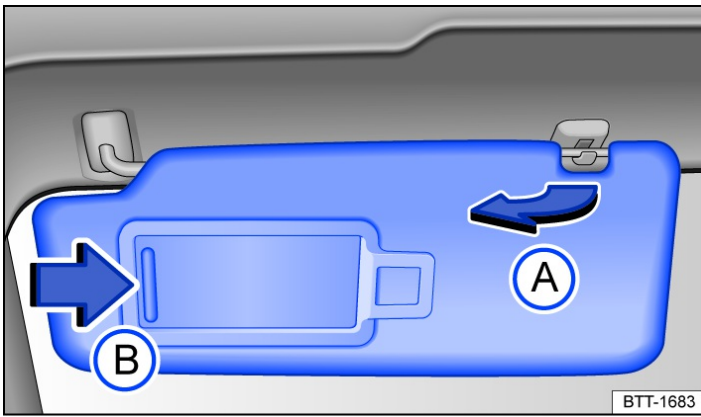

Fig. 1 Sun blind (left-hand side). The right-hand side is a mirror image.
- Pulled out of the bracket and swung over towards the door → *Fig. 1* (arrow A).